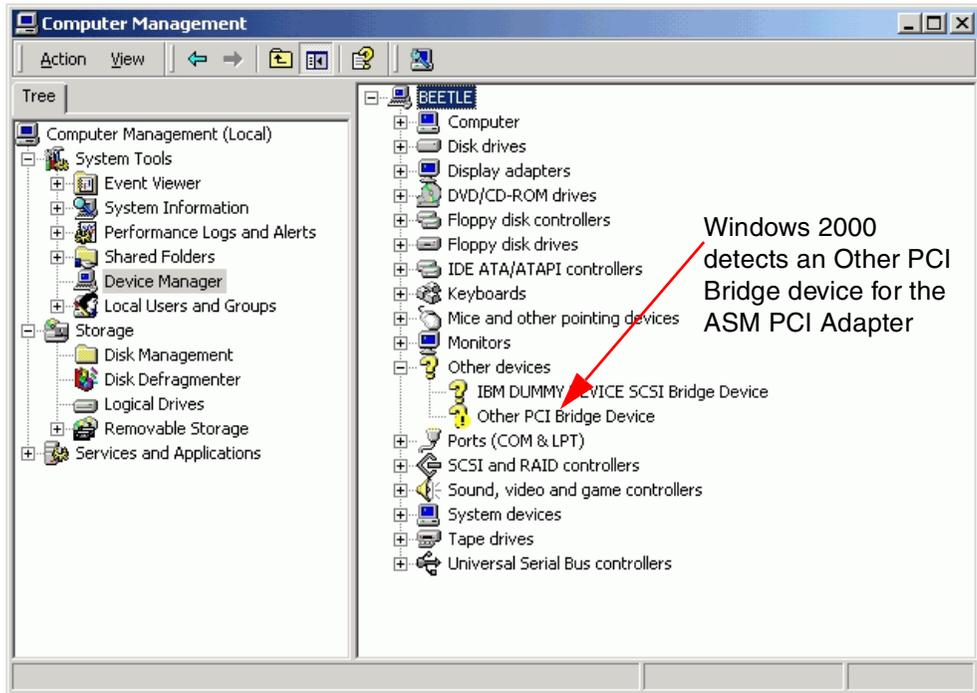

Figure 75. Device Manager — ASM PCI Adapter only
- Figure 75 (if you only have an ASM PCI Adapter in your server)